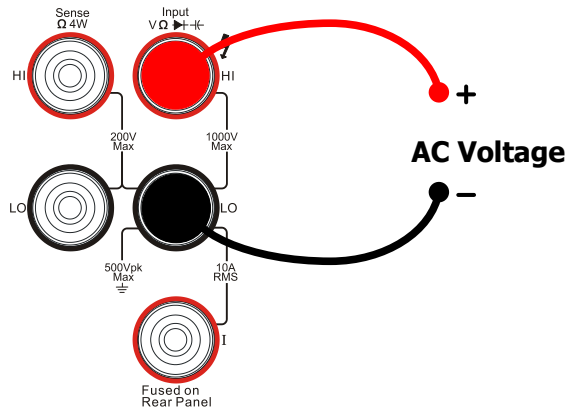

Figure 2-7 Sketch map for connecting
1. Connecting the red lead (Test leads) to Terminal Input-HI (tested circuit) and black lead to Terminal Input-LO as shown in Figure 2-7.